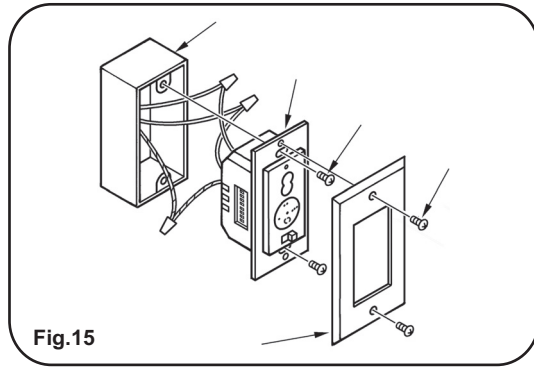

Fig.15
**Step 2.** Make the electrical connections as shown in Fig.15. If your outlet box has a ground wire (Green or Bare Copper) connect the Transmitter's ground wire directly to one of the screws from the outlet box. Secure all wire connections with the plastic wire nuts provided.
**Step 3.** Carefully tuck the wire connections inside the outlet box. Use the screws provided to secure the wall transmitter and wall plate to the outlet box. (Fig. 15)